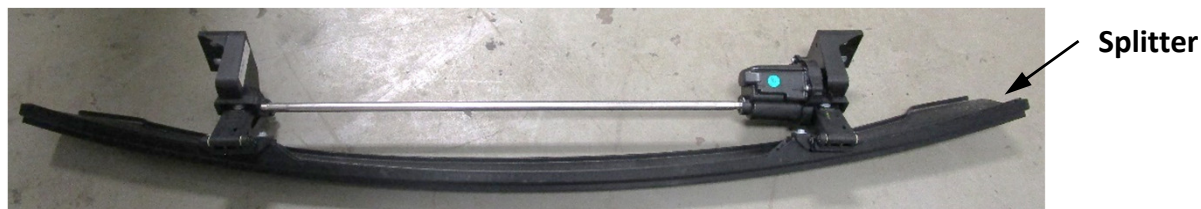

Figure 5.
- IF PRESENT: Remove Splitter – using a 13mm deep well socket, remove (4) hex nuts from splitter, (2) per side. Using a flat screw driver, disconnect the wiring from the splitter and set aside. See Figure 5.
- Remove plastic air dam supports - using a 10mm socket and a flat screw driver, remove (1) bolt, (2) plastic rivets, and (1) wire loom from (2) plastic air dam supports located behind air dam.
- Remove lower air dam – using a 10mm deep well socket, remove (18) hex nuts holding lower air dam to front bumper. NOTE: Use a utility knife or tin snips to cut (3) plastic retaining clips and remove lower air dam.
- Unfasten plastic wheel well – using an 8mm socket, loosen (2) screws holding plastic wheel well enough to slide wheel well over the bolt washers, both sides.